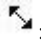

Figure 4-38 An example of a text graph
- SKWorkshop provides up to 16 underline forms, and you can change the display position of the words in the text box and the filling pattern and transparency. See Figure 4-38.